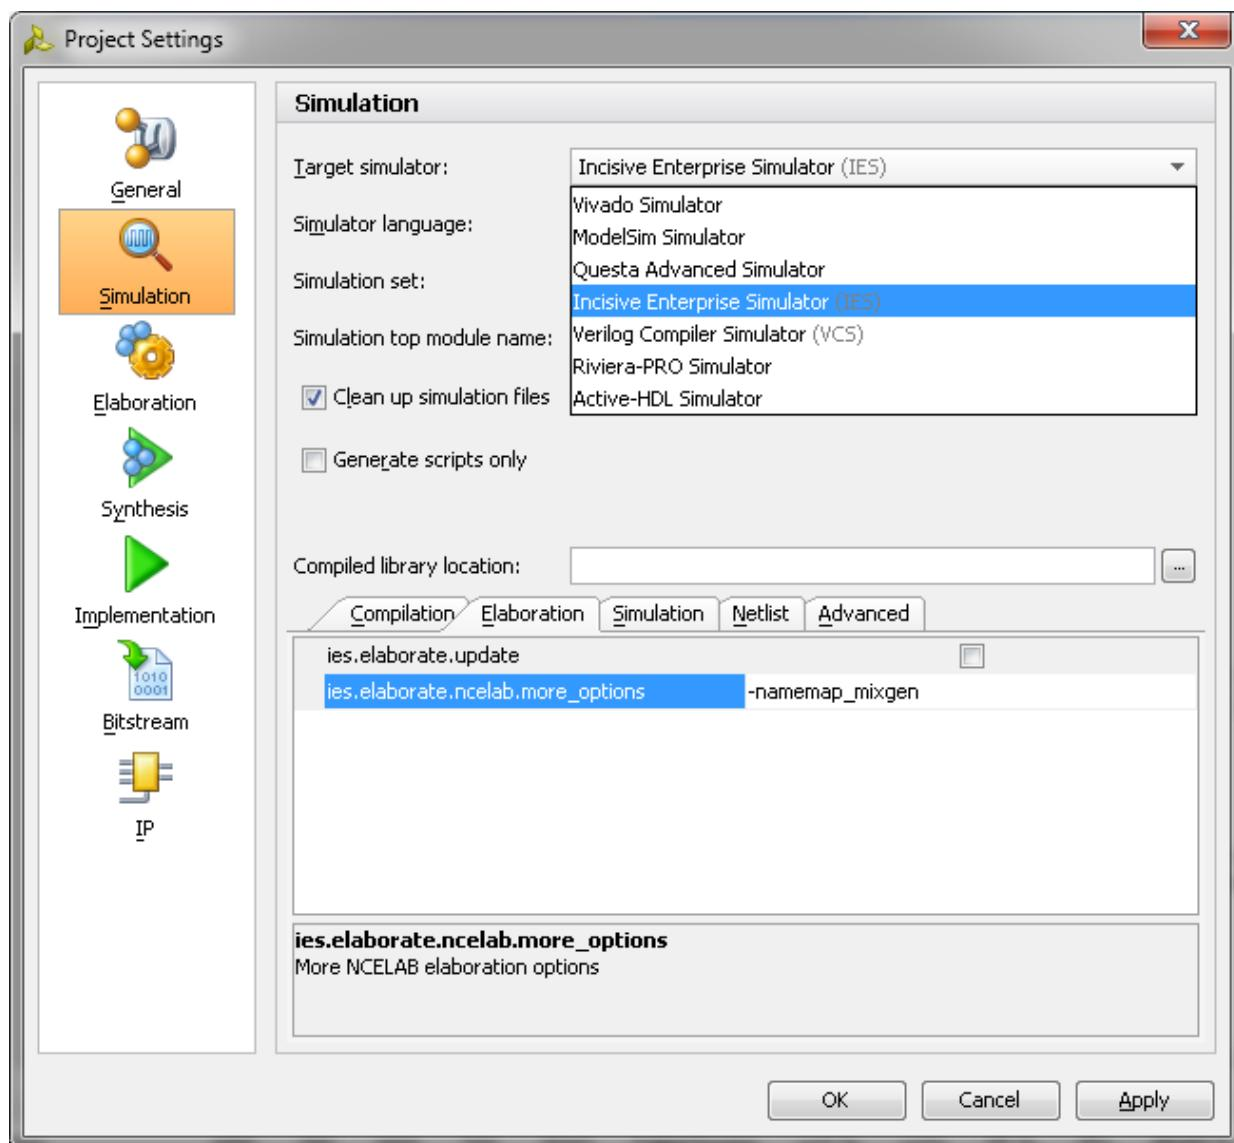

Figure 2-54: Simulation with IES
- d. Under the **Simulation** tab, set the **ies.simulate.runtime** to 1 ms (there are simulation RTL directives which stop the simulation after certain period of time which is less than 1 ms) as shown in Figure 2-54.